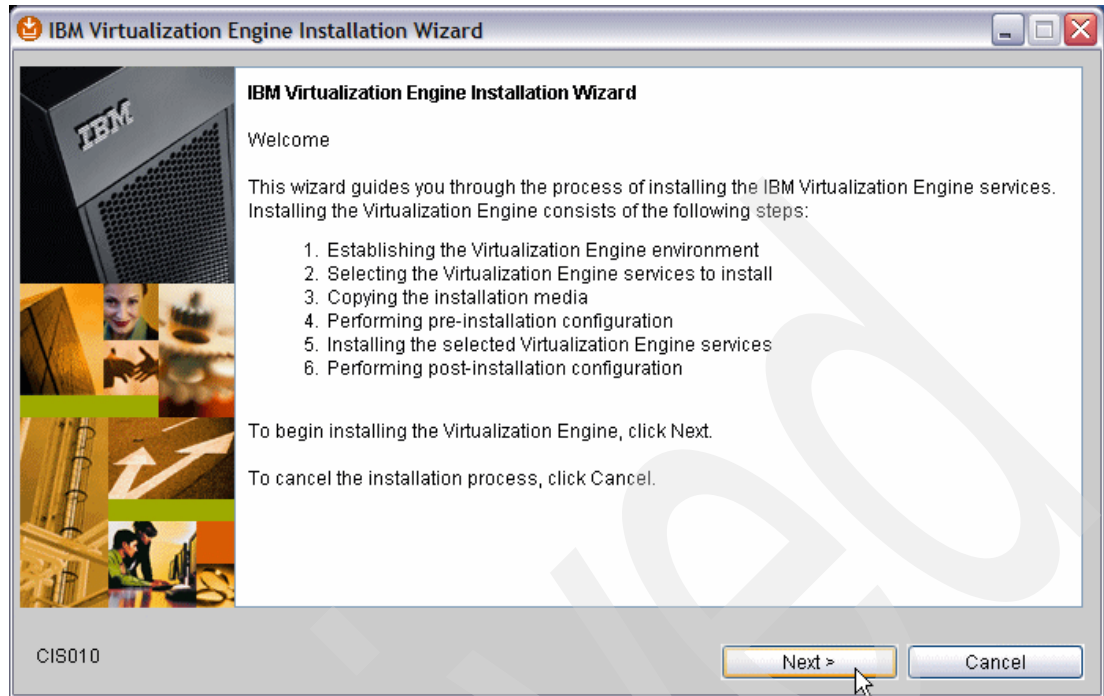

Figure 5-6 Welcome window
3. On the Welcome window (Figure 5-6 on page 116), click **Next**.